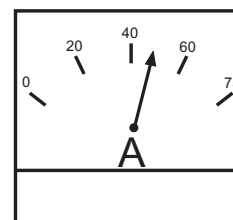

Figure 29. Ammeter (Load)
17. Observe the generator's ammeter (Figure 29) and verify it reads the anticipated amount of current with respect to the load. The ammeter will only display a current reading if the load is in use.